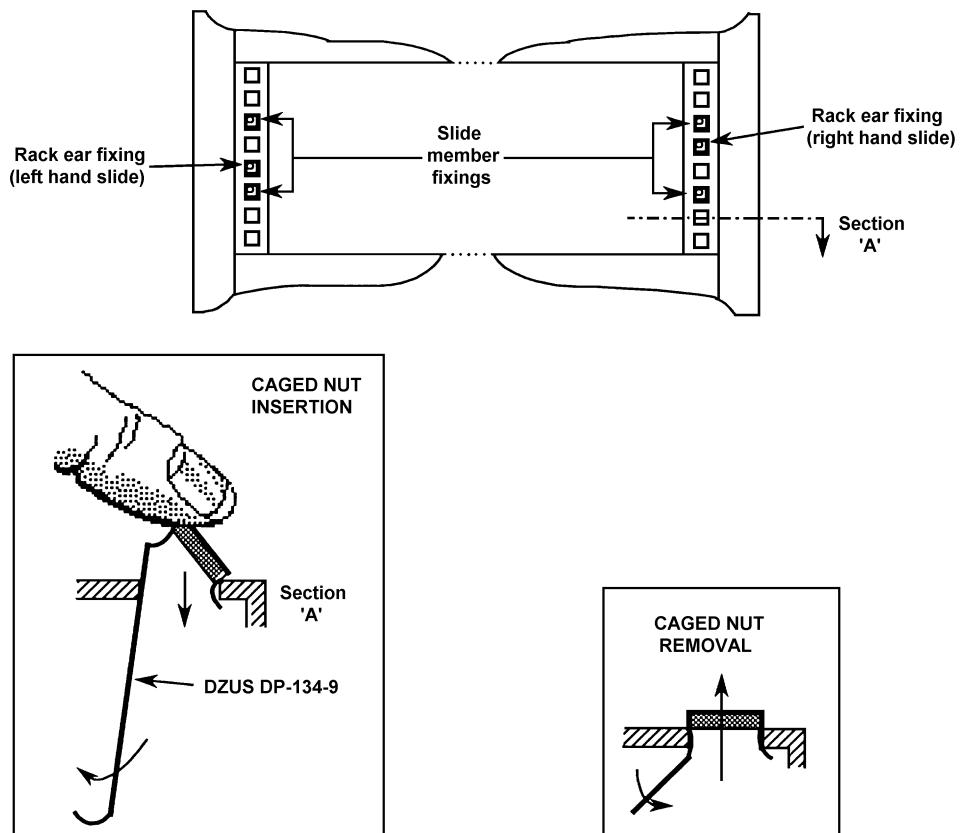

Figure 2.7 - Cage nut insertion in Imrak Series 80 (and similar) cabinets
- Fit the **M6 caged nuts** for outer slide member and rack ear fixing into the rack in positions shown in Fig. 2.7. How to insert and remove caged nuts is shown in the figure detail.